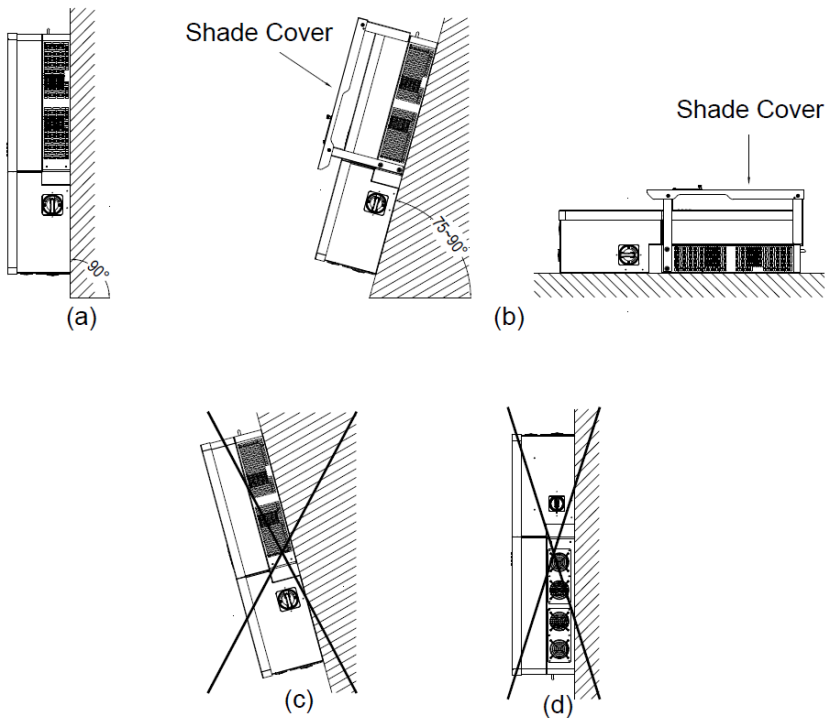

Figure 2.2 - Inverter Mounting
2) Installation Method (see Figure 2.2):